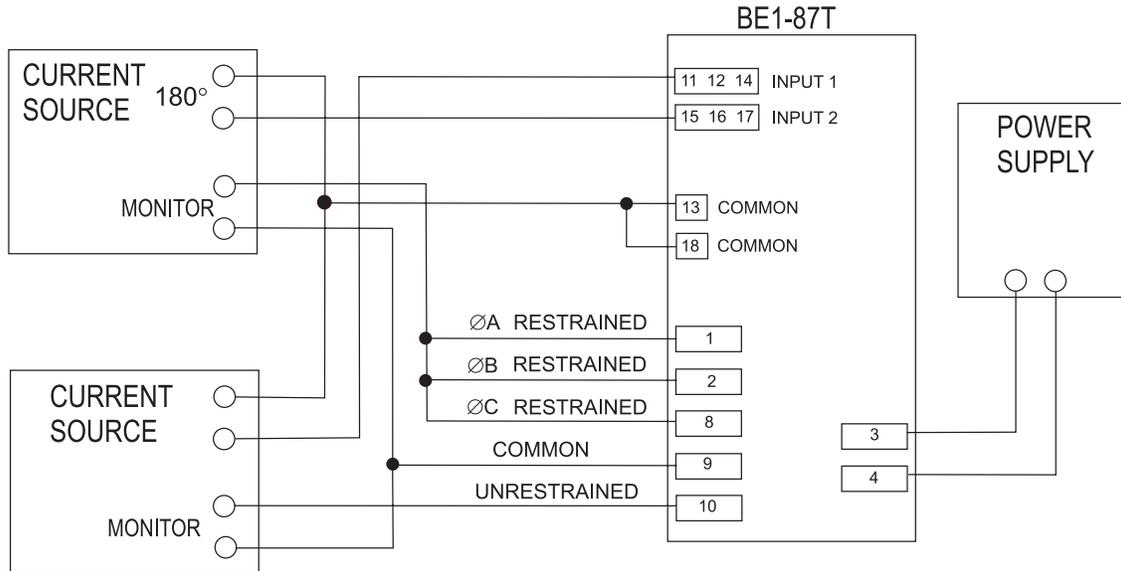

Figure 13 – BE1-87T, Three Phase, Single Input Type E, Output Option F
To utilize the spreadsheet, one needs to be aware of appropriate connections of the test set to the relay. The test set current connections are provided in a basic fashion (described later) in the spreadsheets, but the spreadsheet must be used in conjunction with the connection diagrams given in the Instruction Manuals. Some appropriate figures from the BE1-87T and BE1-CDS220 Instruction Manuals (IM) are reproduced below. Figures 13 and 14, from the BE1-87T IM, show the basics of the connections required to test the BE1-87T. Test connections for the CDS relay are similar in concept, except the output (trip) contact is dependent on relay programming. Figures 15a-15d show the BE1-87T AC and DC terminals for the more common